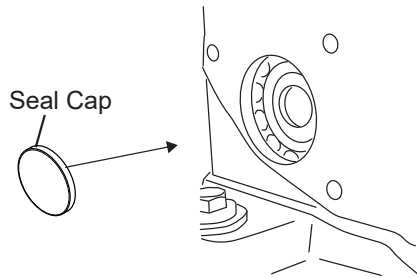

Fig.8-36
m. Assemble the seal cap. (Fig.8-36)